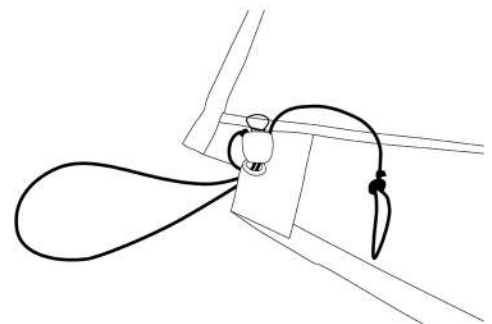

Figure 8. Pull Adjustment Cord Taught
5. Pull the adjustment cord taught, the shade should be tight from the coach to the roller. For the side shade to tension properly the adjustment cord needs to go through the grommet and then attach over the roller tube bracket. (Refer to Figure 8)